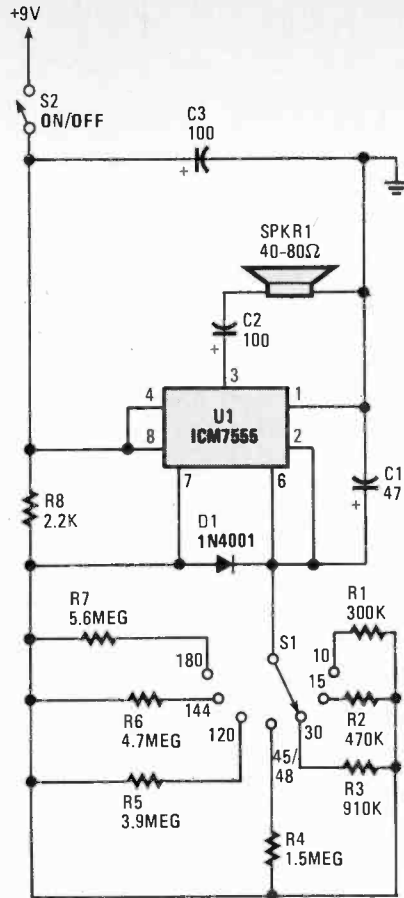

Fig. 6. The Telephone Bill Reducer is built around a 7555 CMOS oscillator/timer.
**Telephone Bill Reducer.** When you're on the phone with somebody, it's easy to lose track of time. You get into a conversation, and it isn't until you get the bill that you realize how long-winded you were. The unit described here (see Fig. 6) doesn't automatically hang up after a time, it simply emits audible clicks on a timed basis. That makes you aware that the taximeter is running, and you'd be amazed at how it helps curtail unimportant phone conversations!